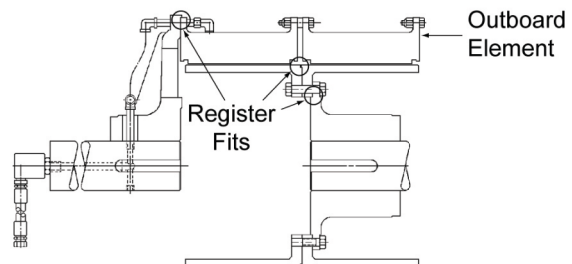

Figure 4
2.1.1 Airflex VC grinding mill clutch applications are available in single-narrow, single-wide, dual-narrow and dual-wide mounting configurations. See Figure 4. The clutch configuration is determined by the motor horse-power and RPM, the allowable motor overload (per cent rated horsepower) for mill starting, the inertia of the mill and the charge, and the physical space available for the clutch. With the exception of single-narrow arrangements, all clutches can be supplied with axial locking devices.